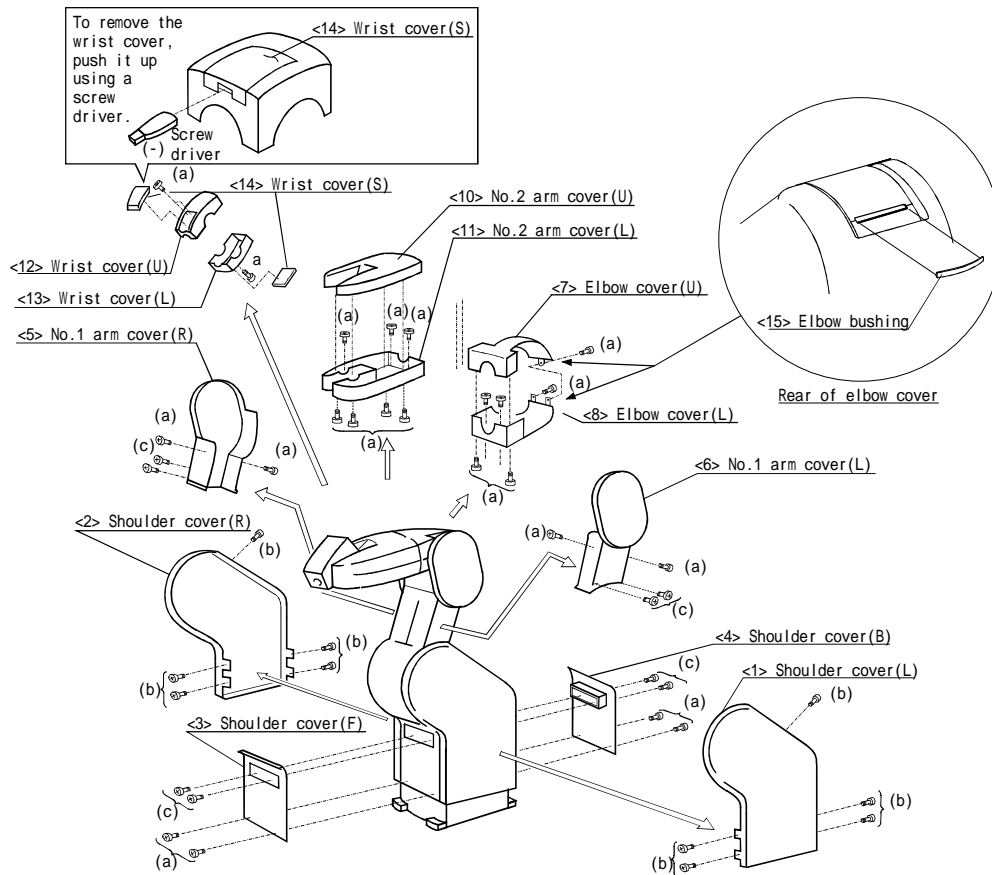
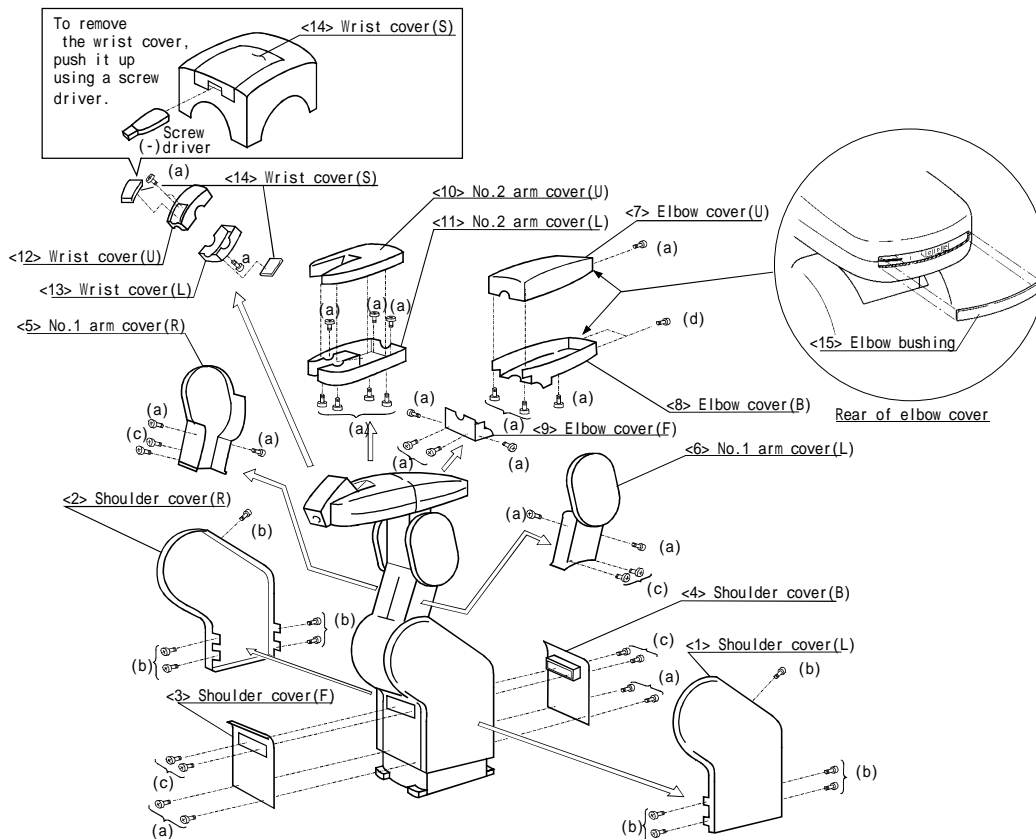

Fig.5-4 : Installing/removing the cover (5-axis type)
Fig.5-5 : Installing/removing the cover (6-axis type)
- Refer to Fig. 5-4 when using the 5-axis type robot arm, and Fig. 5-5 when using the 6-axis type robot arm, and remove the cover.
The part Nos. and symbols in Table 5-3 and Table 5-4 correspond to Fig. 5-4 and Fig. 5-5.